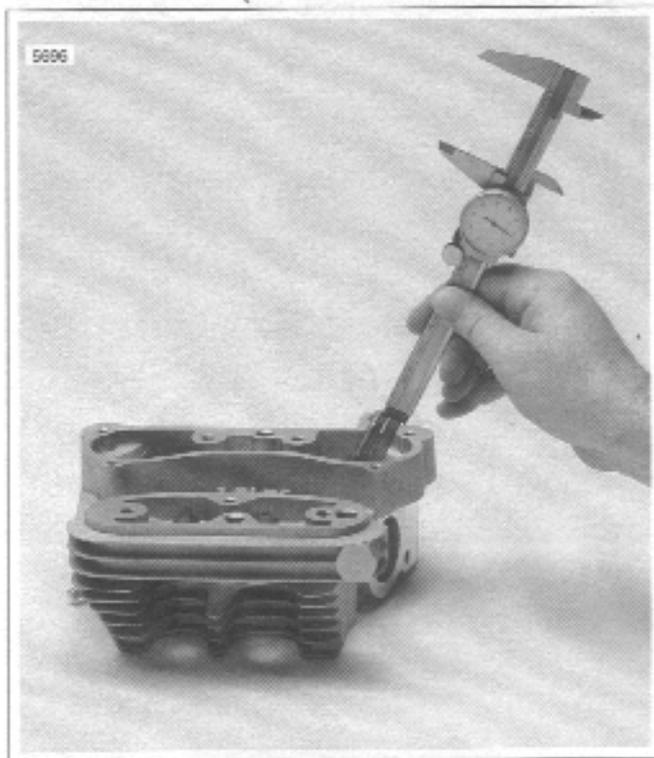

Figure 3-73. Measuring Valve Stem Protrusion
2. See Figure 3-73. Check seats for recession by measuring valve stem protrusion.